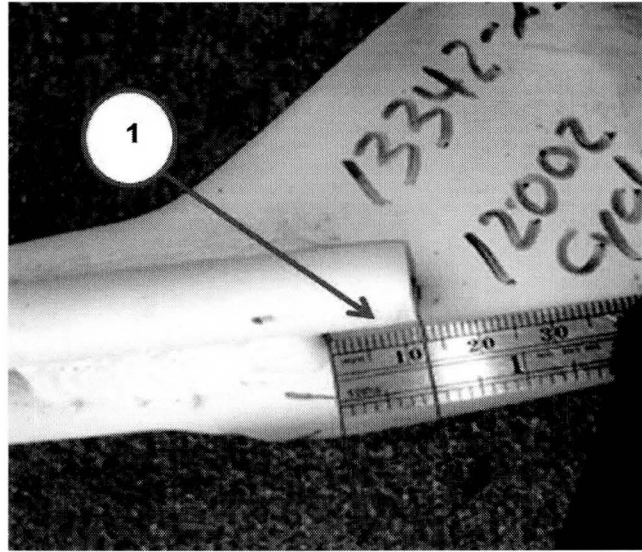

Fig. 2 Weld End Gap
3. Measure the distance from the end of the hanger rod to where the weld starts to secure the rod to the bracket (Fig. 2).